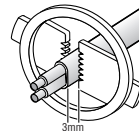

Fig. 2 Clamping Jaws
8. Next pass the cable through the jaws of the clamping piece, as shown in figure 2, and ensure the outer sheath of the cable is captured in the jaws by approximately 3mm.